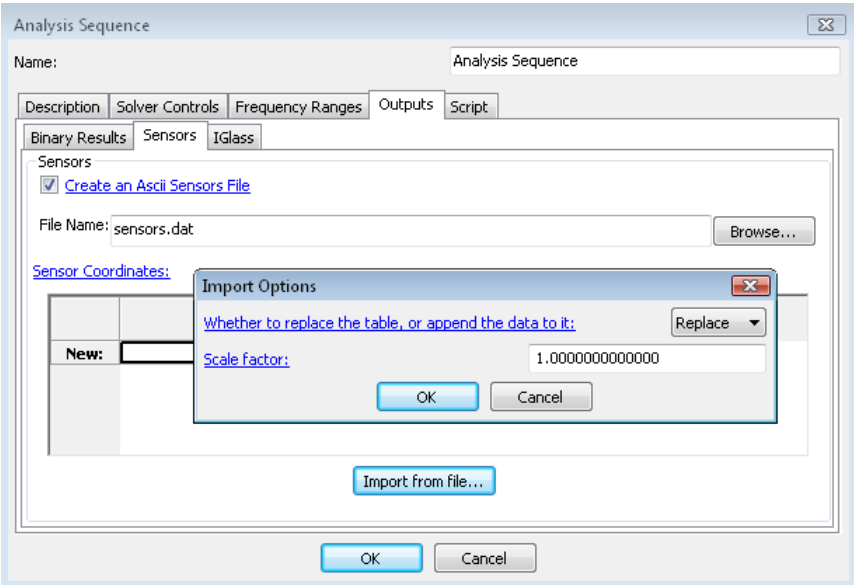

Figure 7.34 Import Sensor Coordinates from a File.
7.3.3.3. Import From File The sensor coordinates can be imported from an *ASCII* file with components separated by commas, tabs or spaces. The file must contain (first) three columns representing X, Y and Z coordinates of a sensor (Figure 7.34). The fourth column that is optional takes a valid string (use double quotes if there are spaces within a name) representing the domain name to which the sensor belongs to. Note that domain names are not read for sensors in *Indirect* models. Each new sensor is added to a new row. Import Options window opens up after the selection of the file with the following options:
Whether to replace the table, or append the data to it The imported data from the file can be used to either replace the current table or append to the existing table by the selection of one of the options: **Replace** or **Append**. (Figure 7.34)
Scale factor All the values in the *ASCII* file are multiplied by the Scale factor before being read into the table (Figure 7.34). This is specifically useful when the imported file has different units compared to *Coustyx* model. A unit conversion factor should be used as the Scale factor to convert these values. For example, when the coordinates in the *ASCII* file are in m and the *Coustyx* units are in mm, a Scale factor of 10^3 is entered to convert the values in the file from m to mm. A Scale factor of 1 imports the values as they are.